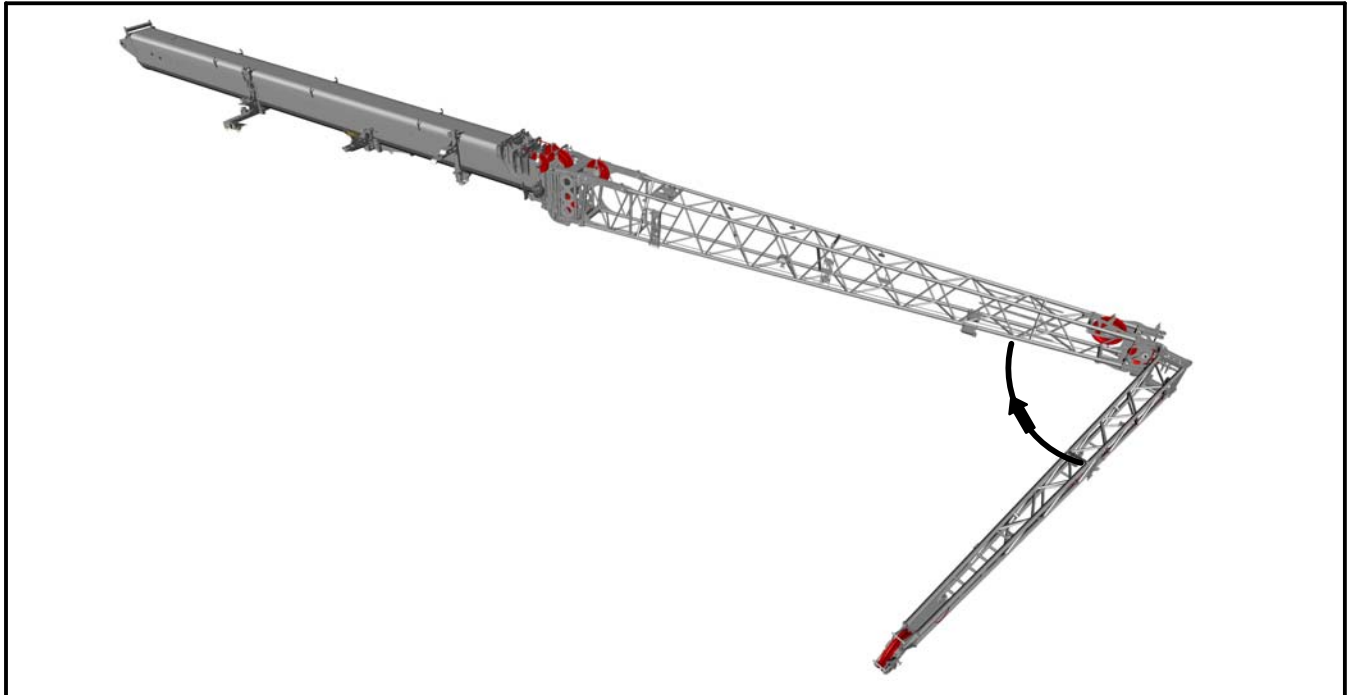

Figure 4–53
23. Remove the fly tip connecting pins from the fly tip connecting lugs on left side of the fly. Refer to Figure 4–52. Install the left connecting pins in the storage locations on the rear of the 23 ft (7.01m) fly tip section. (Install the pins with the head on top and the keeper on the bottom.) Install the pin keepers.
24. Using the hand line attached to the fly tip section, swing the fly tip section around the fly base section until the fly tip hitch pin bracket on the tip section engages with the fly tip hitch pin bracket on the right side of the fly base. Refer to Figure 4–53.